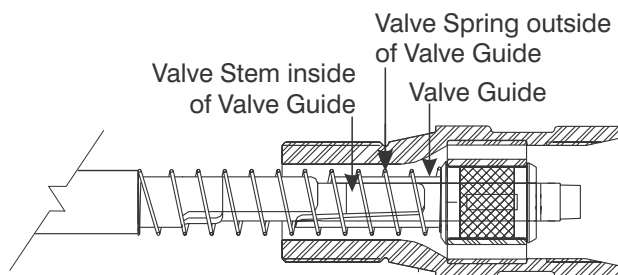

Figure 9-24. Valve Spring, Stem, and Guide
1. Collect on a clean flat work bench: The End Cap (8) and the Valve Stem (5) with Valve (1) and Spring (6) attached per section 9.10.
2. Slide the Spring (6) into smaller end of the End Cap. As shown in Figure 9-24: